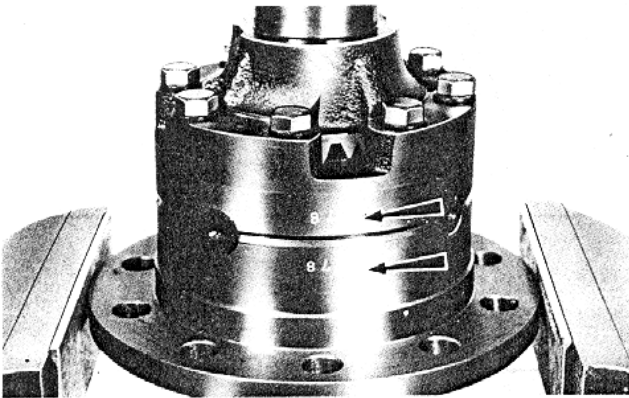

Fig. 9-30 Identification marks
3. Align the identification marks as shown in Fig. 9-30 and secure the case halves together with bolts. Torque the bolts to 2.5 ~ 3.0 m-kg (18 ~ 21 ft-lb).